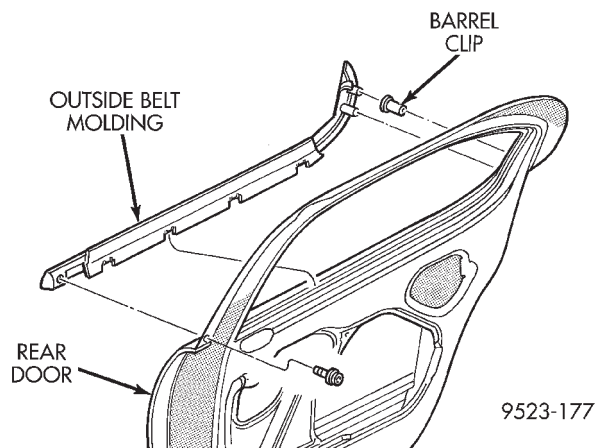
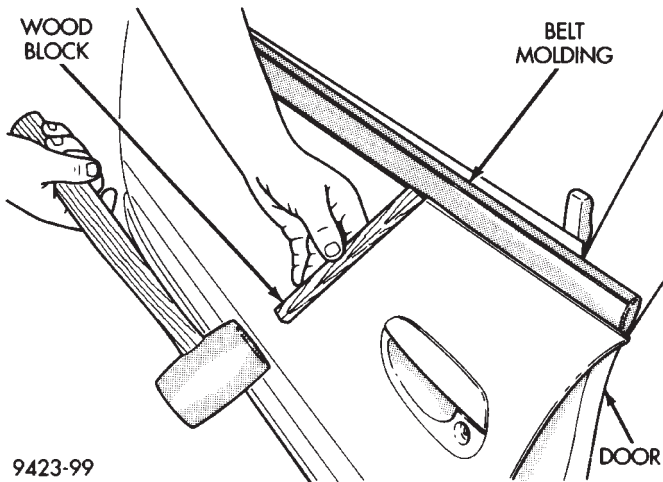

Fig. 52 Rear Door Outer Belt Molding
Fig. 53 Outer Belt Molding Removal
- (1) Remove screw holding forward end of molding to rear door (Fig. 52).
- (2) Disengage clips holding rearward end of belt molding to rear door.
- (3) Using a rubber mallet and block of wood, tap upward at each clip holding belt molding to door (Fig. 53).
- (4) Separate belt molding from door.